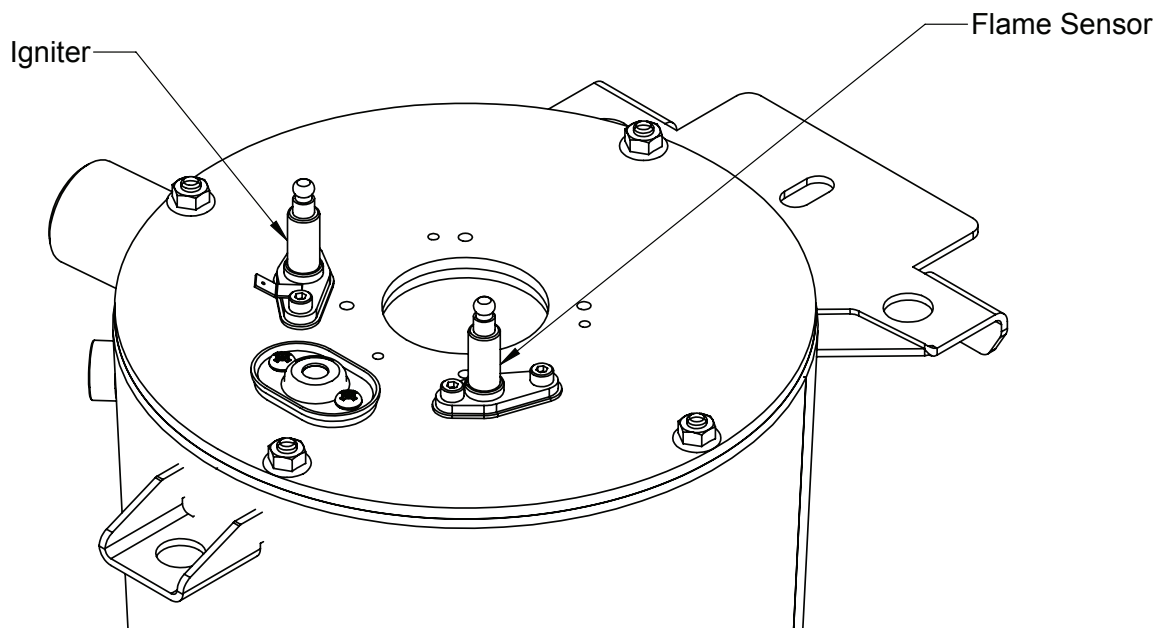

Figure 13.2: Igniter and Flame Sensor Location
- i. **Unplug the igniter, ground, and flame sensor wires** from the ignition electrode and the flame sensor (Figure 13.2).
- j. **Use a 10 mm wrench to remove** fire door to the heat exchanger (Figure 13.2). Carefully remove the door/blower/gas valve assembly from the heat exchanger, being careful not to damage the refractory insulation on the inside of the door (see Refractory Warning on page 136) or the electrodes.